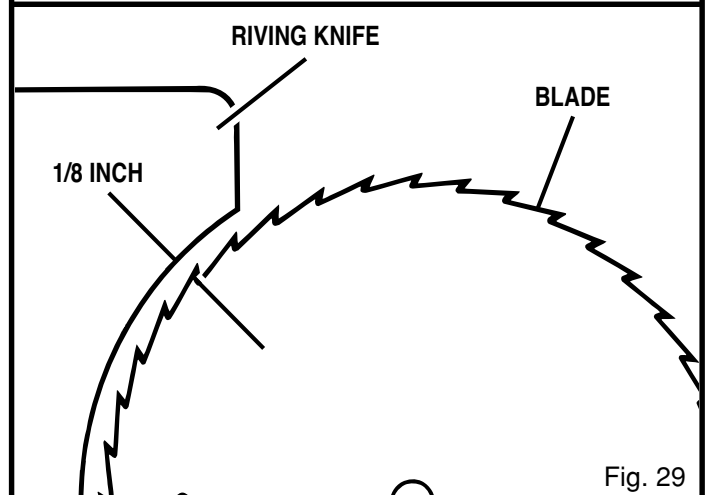
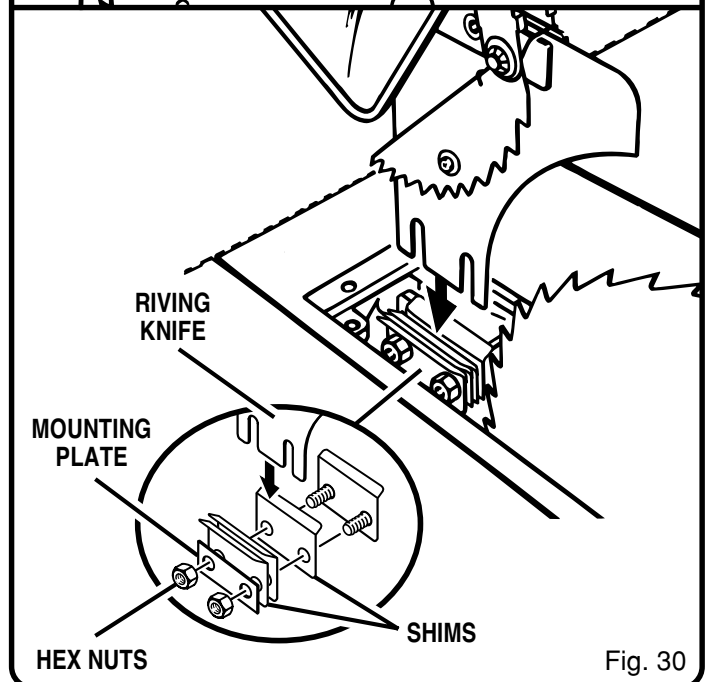

Fig. 29
Fig. 30
- With blade guard up, make sure the riving knife is placed at least 1/8 in. from the outer points of the blade. See *Figure 29*. Then make sure it is centered within the width of the blade. See *Figure 30*. If either placement is wrong, adjust with the following steps.